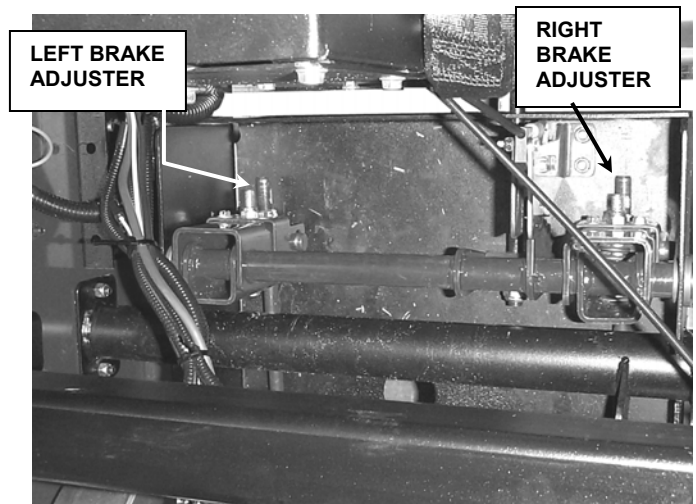

FIGURE 4.2 (Seen from above)
2. Locate left and right brake adjustment nuts. Clearly mark the nuts so that you will be able to count turns. See Figure 4.2.